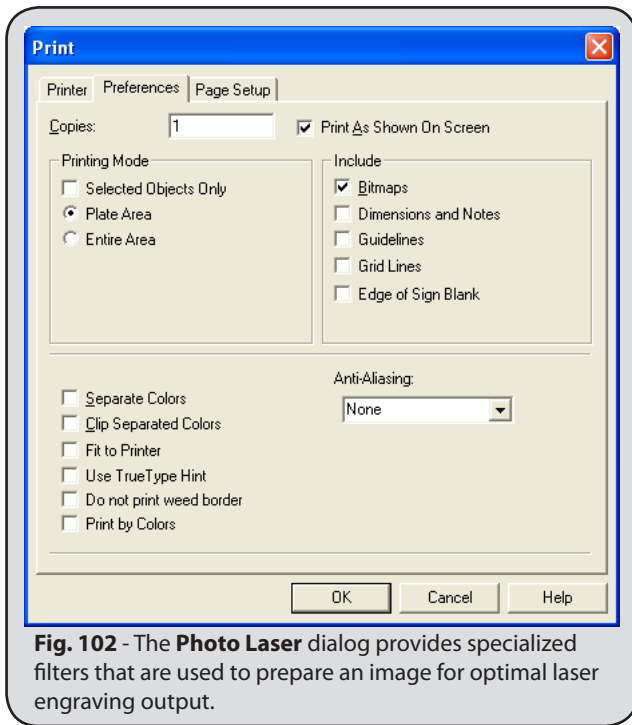

Fig. 102 - The **Photo Laser** dialog provides specialized filters that are used to prepare an image for optimal laser engraving output.
4. Click the **Preferences** tab (Fig. 102).